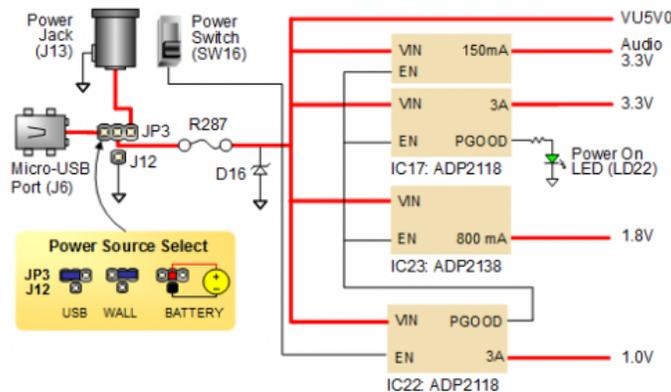

Figure 19: Settings for the power jumper.
- First, the three board jumpers must be set correctly. Set the power jumper (located beside the USB port) to USB, as shown in Figure 19.